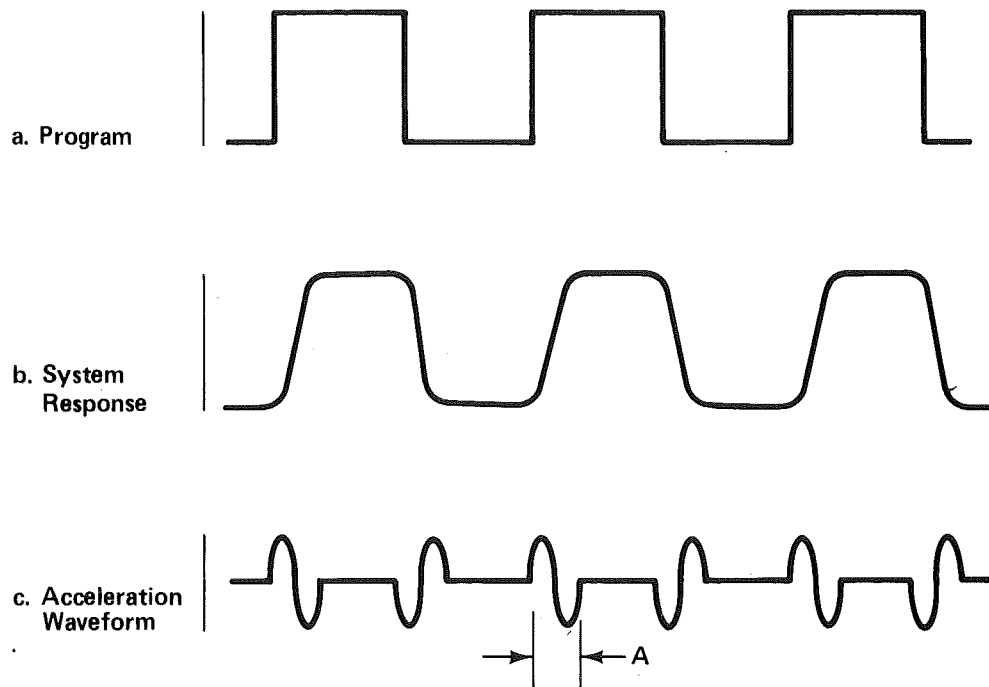
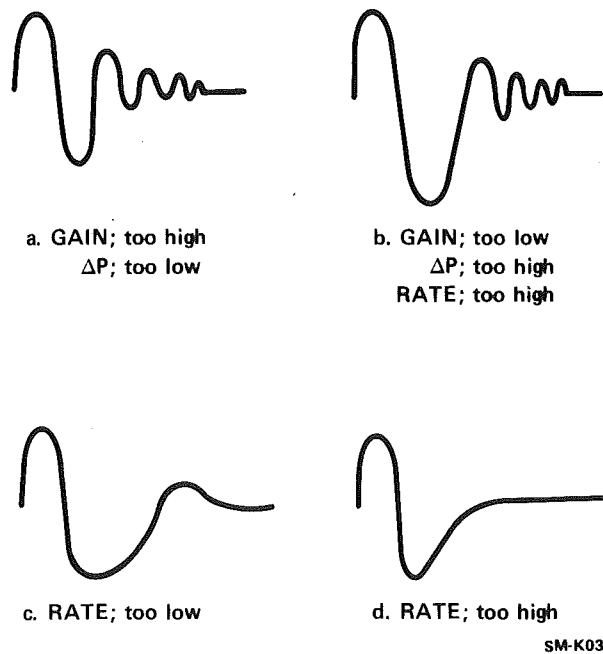

Figure 2-9. Desired Acceleration
Figure 2-10. Indications of Misadjusted Controls
Figure 2-9 shows a typical acceleration waveform with respect to the square wave program. Under optimum conditions a symmetrical sine wave should occur with each edge of the square wave pulse.
8. While monitoring acceleration on the oscilloscope, sequentially adjust the GAIN, RATE, and  $\Delta P$  controls to achieve the acceleration waveform shown in figure 2-9. Figure 2-10 shows what the acceleration waveform may look like when the controls are misadjusted.